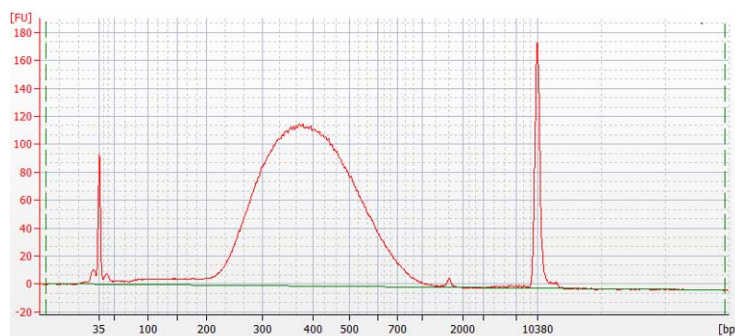
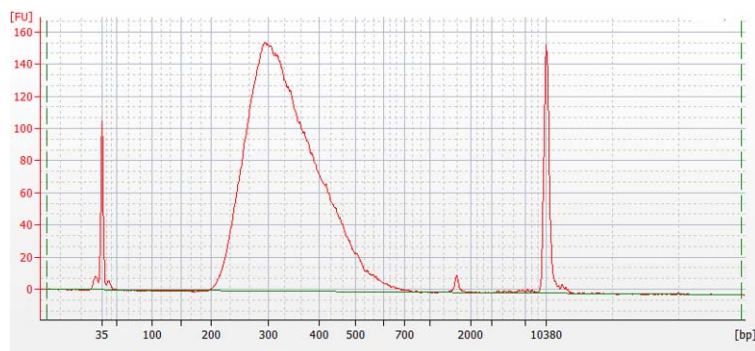
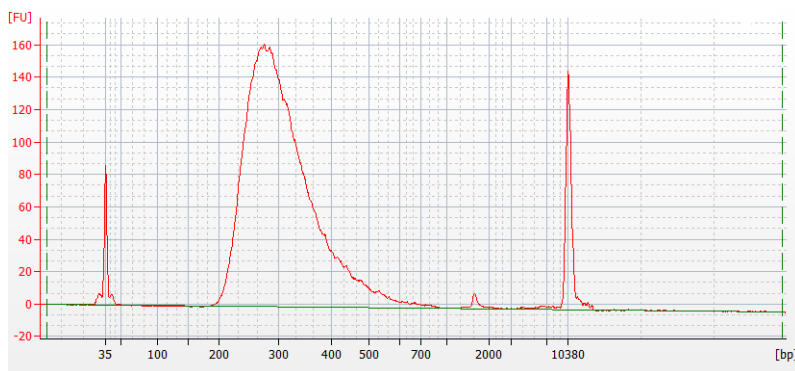

Figure 8 Post-capture library prepared from a high-quality gDNA sample analyzed using a Bioanalyzer system High Sensitivity DNA assay.
Figure 9 Post-capture library prepared from a typical FFPE gDNA sample analyzed using a Bioanalyzer system High Sensitivity DNA assay.
Figure 10 Post-capture library prepared from a low-quality FFPE gDNA sample analyzed using a Bioanalyzer system High Sensitivity DNA assay.
- 4 Verify that the electropherogram shows the peak of DNA fragment size positioned between 200 and 400 bp. Sample electropherograms are shown in Figure 8 (library prepared from high-quality DNA), Figure 9 (library prepared from medium-quality FFPE DNA), and Figure 10 (library prepared from low-quality FFPE DNA).
- 3 Verify that the electropherogram shows the peak of DNA fragment size positioned between 200 and 400 bp. Sample electropherograms are shown in Figure 8 (library prepared from high-quality DNA), Figure 9 (library prepared from medium-quality FFPE DNA), and Figure 10 (library prepared from low-quality FFPE DNA).